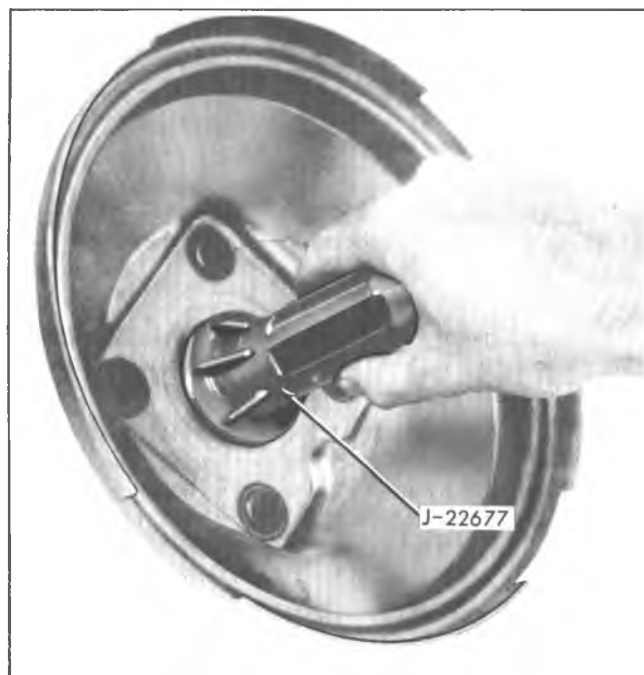

Fig. 5-4D—Installing Rear Housing Seal
1. Place rear housing on a block of wood, stud side down, and position housing seal in center hole. Use Tool J-22677 (fig. 5-4D) to seat seal in recess of rear housing. Tool bottoms against housing when seal is in place.